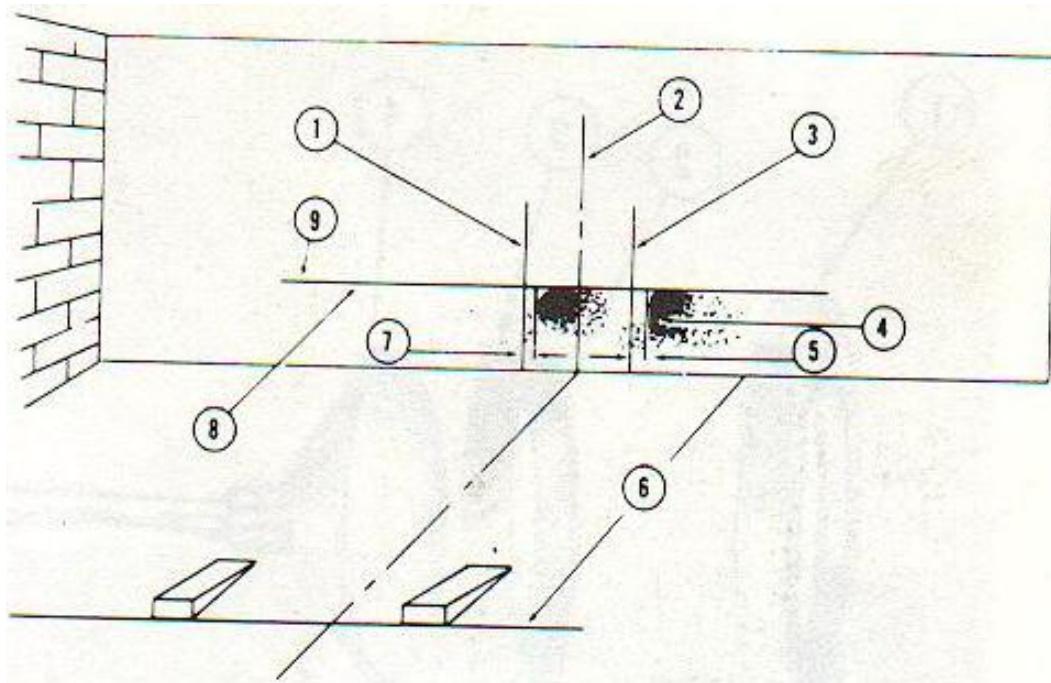

Figure 2-40. Headlight aiming chart.
(1) Position the vehicle on a level floor with no load in vehicle.
(2) Locate a screen at right angles to the vehicle exactly 25 feet ahead of the headlights. Move the screen so that the centerline of the screen is directly in line with the centerline of the vehicle,
(3) Measure the distance from the center of the headlights to the floor. Compare this measurement with the horizontal line (9) on the screen. Raise or lower the horizontal line on the screen until it is 3 inches below the measured height of the headlight centers. Line (1) and (3) must be aimed with the vertical center lines of the left and right headlights, respectively.
(4) Turn the headlights on and operate the selector switch to high beam.
(5) If either headlight pattern differs from figure 2-40, loosen or tighten the adjusting screws as required to produce the correct pattern. Adjust the remaining